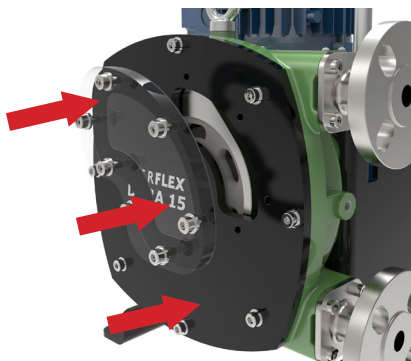

Figure 23. - Fitting the inspection window
3. Mount the inspection window, with the bolts and gasket, over the front cover, aligned as shown in Figure 23.